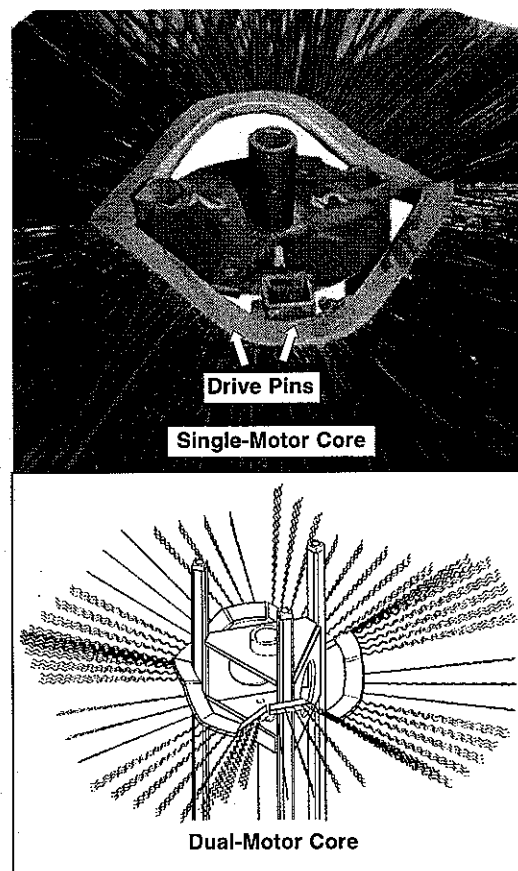

figure 15
- b. Slide the first section onto the core with the drive pins on either side of tube 1. Make sure that the drive pins angle up (figure 15).